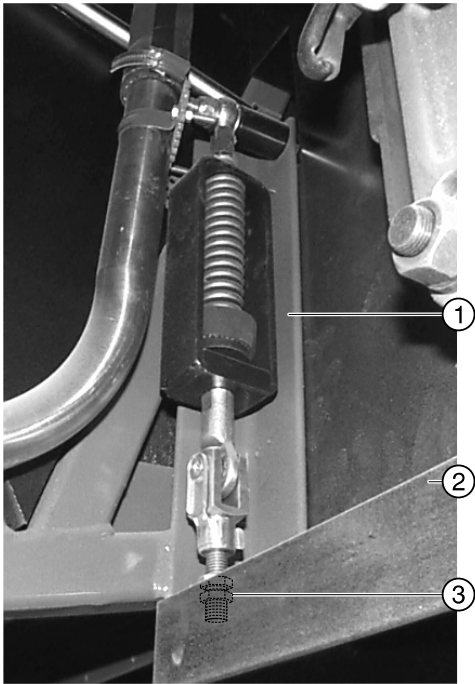

Figure 8 Supporting frame for retarder
5. The stator is supported by a diagonal { **2** } (Figure 8) that is connected to the chassis by two springs { **1** } (see Figure 8). This makes sure that the housing of the gearbox is not excessively loaded. Loosen the nuts { **3** } so that the diagonal can be removed with the retarder.
10. Fit the diagonal on the stator. Tighten the 2 nuts {2} (see Figure 8) hand-tight. The nuts must then make 6 turns so that the springs are preloaded.